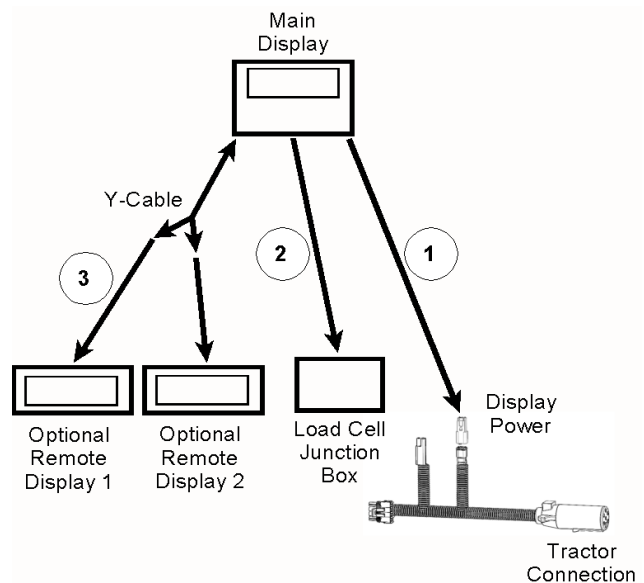

Figure 4: Connection Arrangement with 2 Remote Displays
- a. If there are 2 remote displays, connect the Y-cable that is connected to the remote displays (3) to the Auxiliary port on the main display; see **Figure 4**.